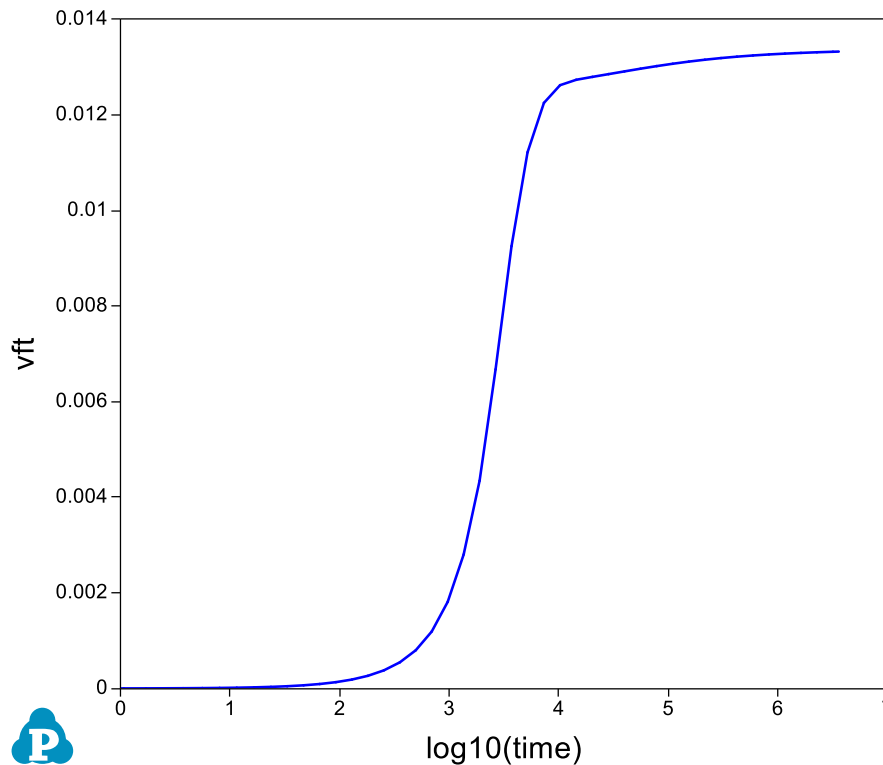

Figure 3.4.4: Default plot of volume fraction evolution of the precipitate
- Figure 3.4.4 shows the default plot of the simulation which is volume fraction evolution of the precipitate phase. The time is in second;